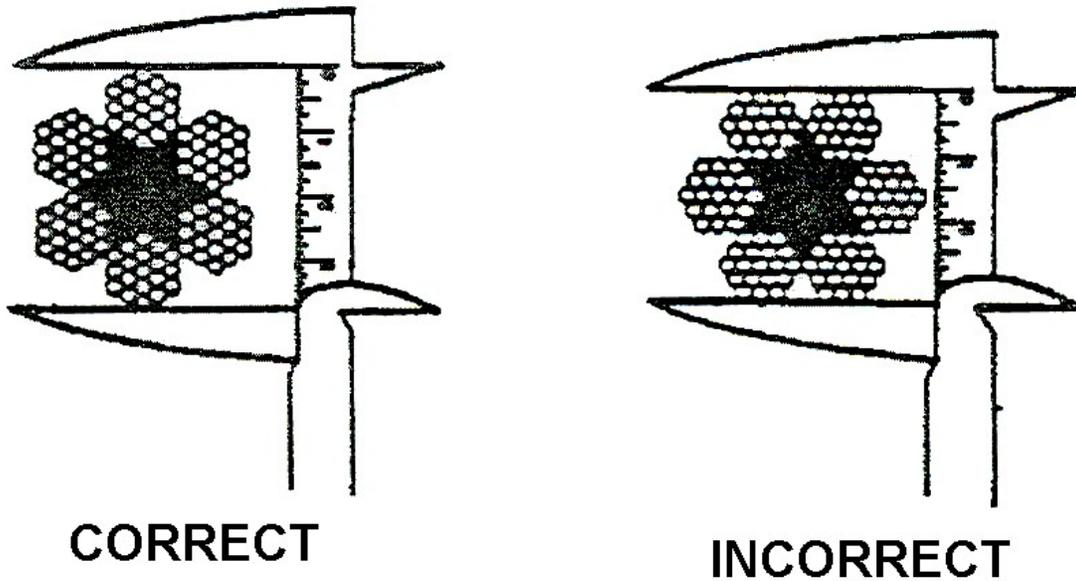

Figure 3-136
1. Measure the diameter of the wire rope using a slide caliper (see Figure 3-136).